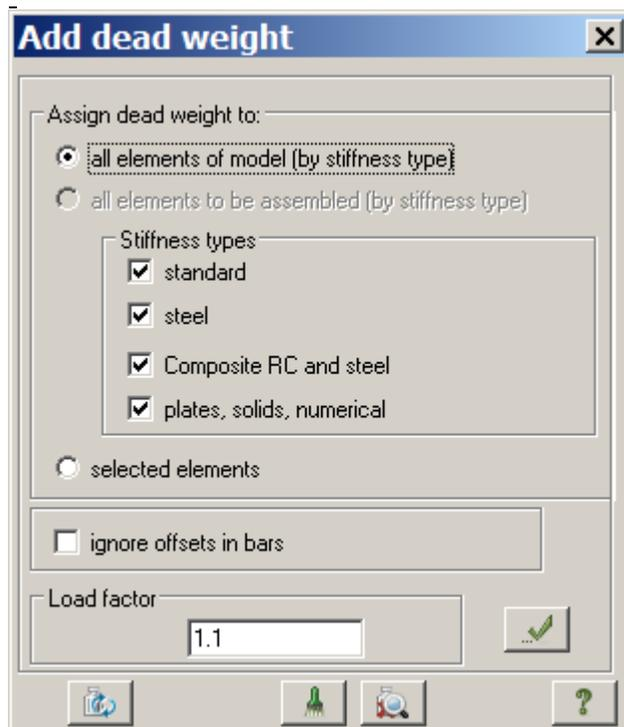

Figure 18.10 **Add dead weight** dialog box
- ⇒ In the **Add dead weight** dialog box (see Fig.18.10), click **All elements** and specify **Load factor** as equal to **1.1**.